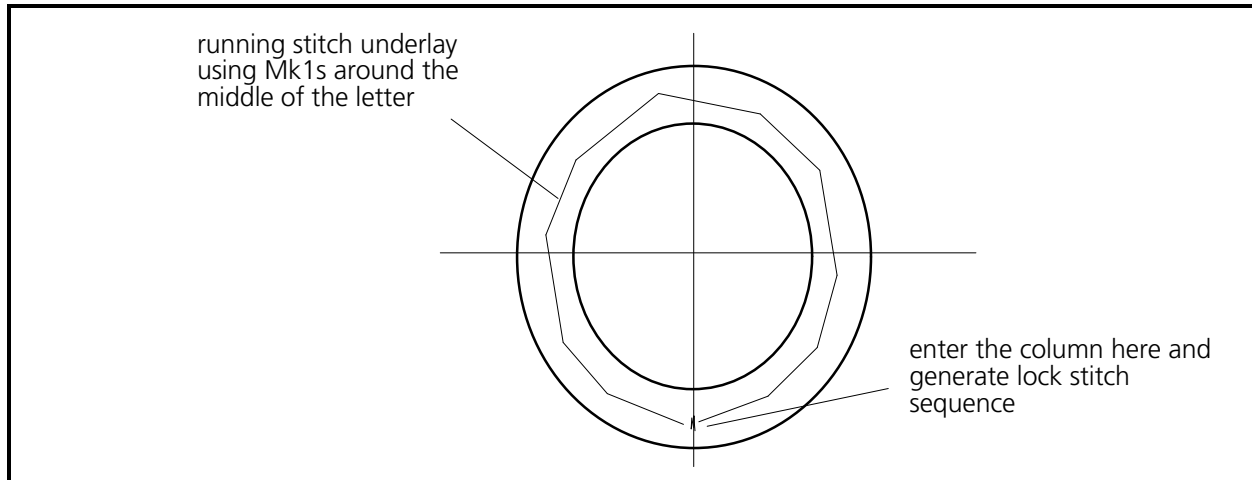

Figure 6-43
1. Perform the needle up, Mk1, normal stitch, Mk1 sequence to move to the bottom middle area of the letter **o** (see Figure 6-43).
2. Generate lock stitches in the letter **o** in a vertical direction as shown in Figure 6-43.
3. Using Mk1s, generate a running stitch underlay completely around the letter (see Figure 6-43). Finish with a Mk1 near your lock stitches.